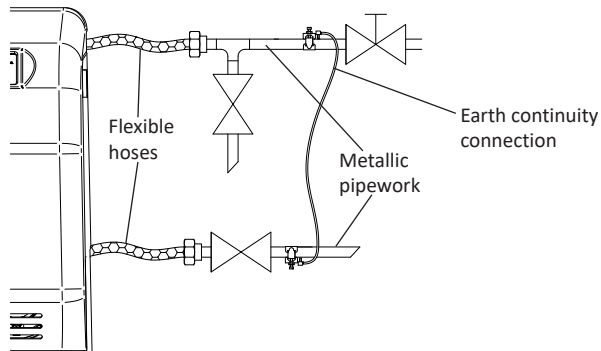

Fig. 14
- 5.15 **Adjacent pipes:** Adjacent suction and delivery pipes should be fitted with earthing clamps in accordance with current regulations (Fig. 14).